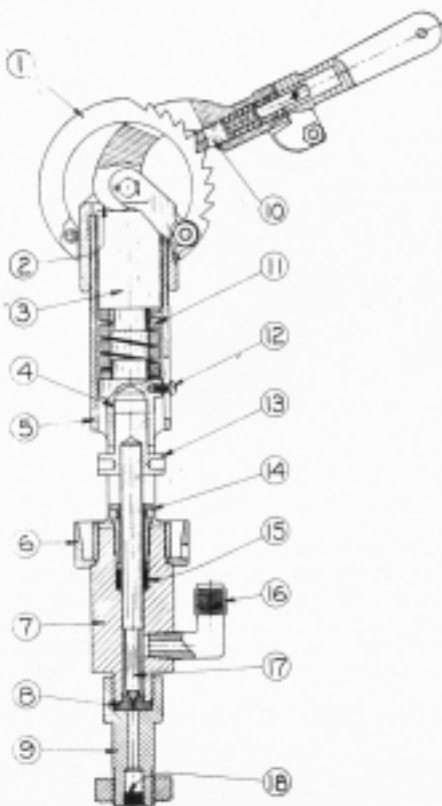

FIG. O-2
Referring to Fig. O-2 the regulating valve is built around valve body (7). The hardened steel valve seat (8) is held between the body and adapter stud (9) which screws on the bottom of the body and through which passage (18) allows the by-passed fuel to escape. Fuel inlet elbow (16) is threaded into the side of the body, supplying fuel to the annular space around the reduced section of the valve stem (17). The top of the body is bored to receive stem packing (15) and packing gland (14). Screwed to the top of the body is relief valve spring cage (5). This cage is screwed down upon the drain cup holding the latter in place against a shoulder on the body.